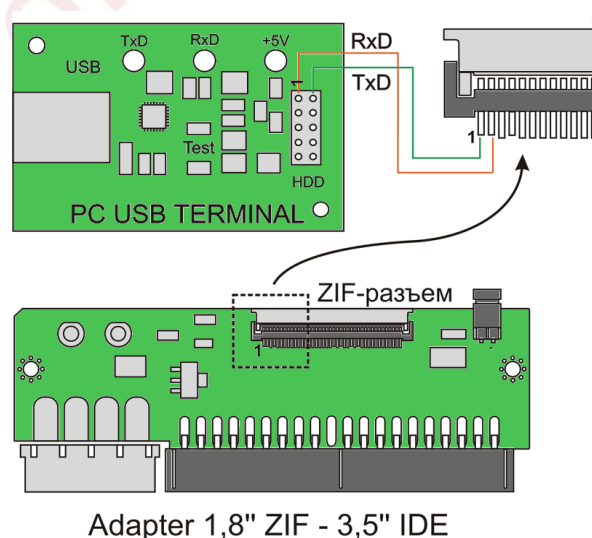

Fig. 3.4. Terminal connection scheme for 1.8" ZIF HDD.
- 4) If you need to use the terminal, connect the PC USB TERMINAL adapter to the USB port and 1.8" ZIF – 3.5" IDE adapter in accordance with the scheme shown in Fig. 3.4. Terminal connection is arranged by soldering wires between contacts 1 and 2 of the ZIF connector on the adapter and the 10-pin connector on the PC USB Terminal. The scheme for terminal connection is shown in the Fig. 3.4.